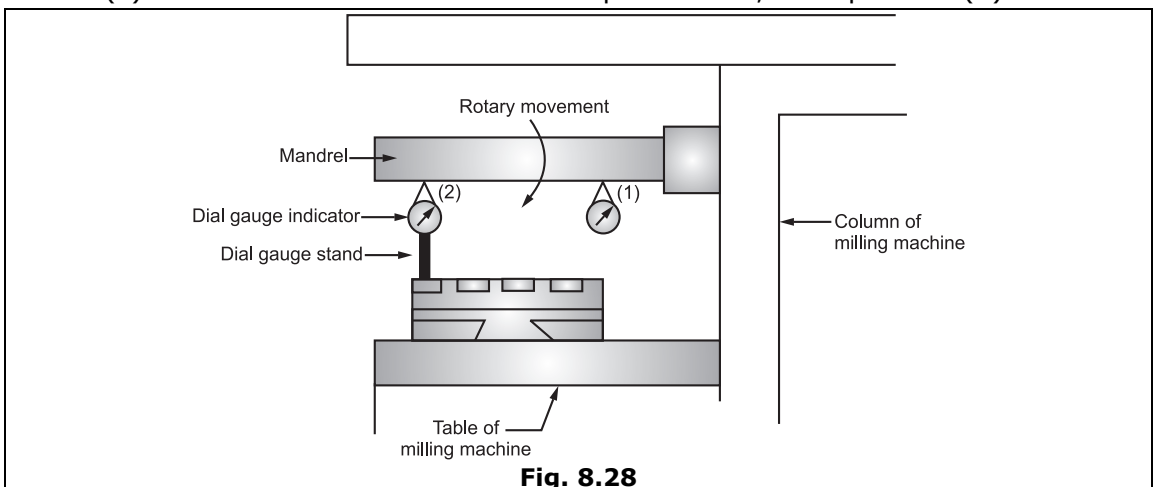

Fig. 8.28
- Fix a mandrel as shown in Fig. 8.28.
- Near to spindle nose, refer position (1).
- At a distance of 300 mm from spindle nose, refer position (2).